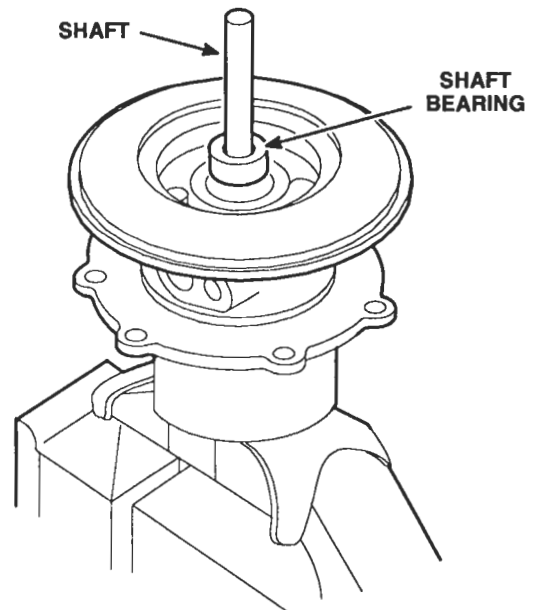

Figure 27. Shaft Bearing in Center Housing Installation (Compressor End)
5. Lubricate the outside diameter of the second shaft bearing with engine oil, then place the bearing over the shaft and start it straight into the bearing bore (Figure 27.) Push the bearing down in the bearing bore against the wear spacer. On former turbochargers, push the bearing down against the retaining ring.